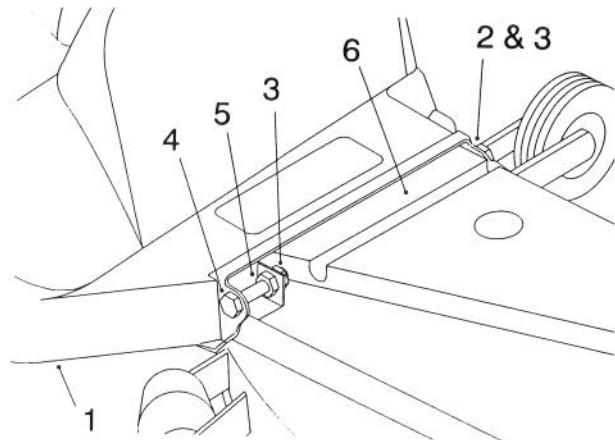

Figure 18
the end. Push the bolt through the hinge clip hole and install the nylon lock nut so one thread protrudes through the nut (Fig. 18). Then tighten the regular nut against the clip.
b. Mount the left-hand side of the blower belt cover to the mower belt cover using a  $\frac{1}{4}$ " x  $\frac{5}{8}$ " bolt and  $\frac{1}{4}$ " nylon lock nut (Fig. 18). Tighten the lock nut until you feel a slight drag on the cover when you rotate it.